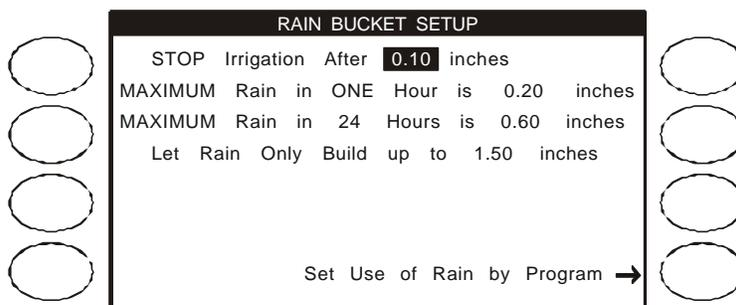

Fig. 6a
From the WEATHER SETUP screen, Press the **RAIN BUCKET** Menu Key to access the RAIN BUCKET SETUP screen (Fig. 6a). The 4 settings on this screen determine how much actual rainfall will be placed into the rain table, which are used to offset irrigation run times. On the following page is a description each setting.
- Stop Irrigation after: This setting determines how much rain must fall before the controller will start accumulating rainfall values in the rain table. It also determines when to halt any ongoing irrigation. In Fig. 6a, .10 inches of rain will have to fall before any rain data starts to accumulate in the rain table.
- Maximum Hourly Rain: This setting determines the maximum amount of rain that will be put in the rain table after a period of 1 hour of rain. In Fig. 6a, a maximum of .20 inches of rain will be put into the rain table, no matter how much rain falls in a 1 hour period. The amount of rain from this setting put into the rain table, will increase only until it reaches the next setting.
- Maximum 24 Hour Total: This setting determines the maximum amount of rain that will be put into the rain table in a 24 hour period. In Fig. 6a, a maximum of .60 inches of rain will be put into the rain table, no matter how much rain falls in a 24 hour period. The amount of rain from this setting put into the rain table, will increase only until it reaches the next setting.
- Let Rain Only Build Up to: This setting determines the maximum amount of rain that can be stored in the rain table. In Fig. 6a, the controller will stop storing rain data in the rain table if the Maximum 24 Hour Total reached 1.50 inches of rain.